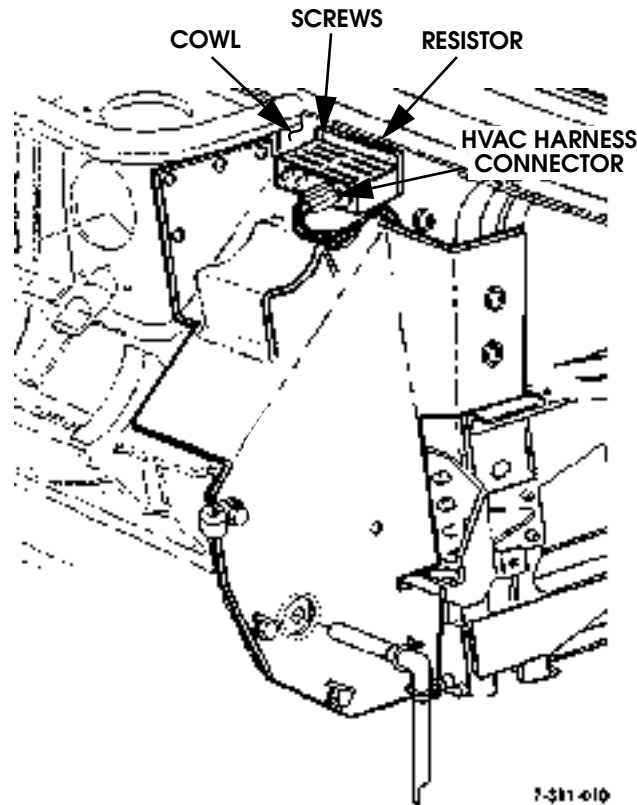

Figure 11-50: Blower Motor Resistor Replacement
1. Remove HVAC harness connector from resistor (Figure 11-50).